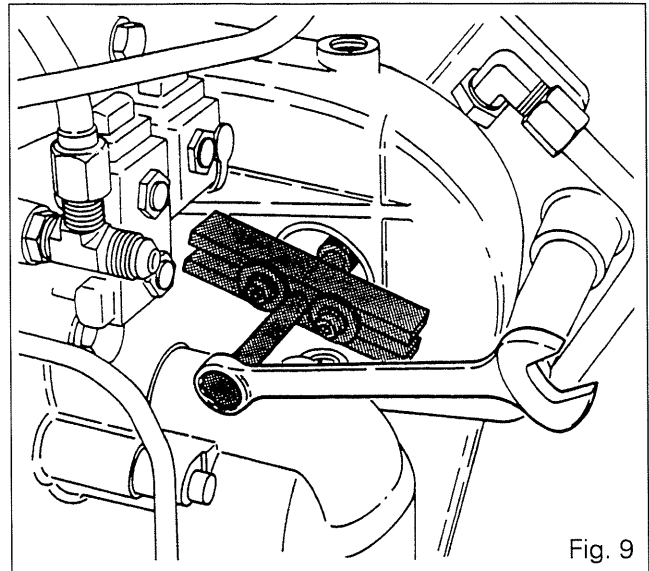

Fig. 9
19. Extract the gear **(44)** using extractor PD 155 C and suitable bolts (Fig. 9).